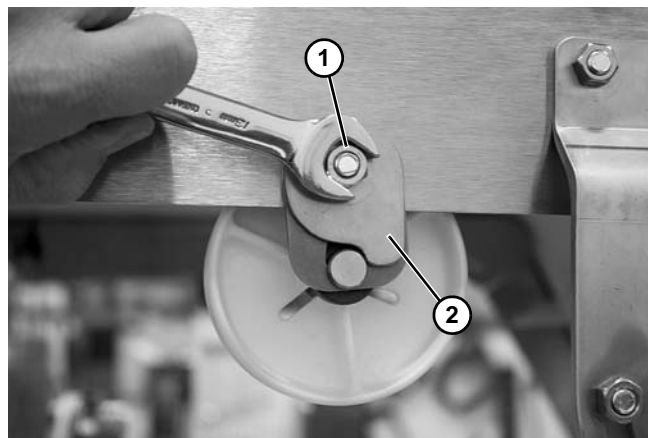

Figure 141
1. Loosen nut (Figure 141, item 1) and rotate return clip (Figure 141, item 2) up on both sides of conveyor. Loosely tighten nuts to hold clip in place.